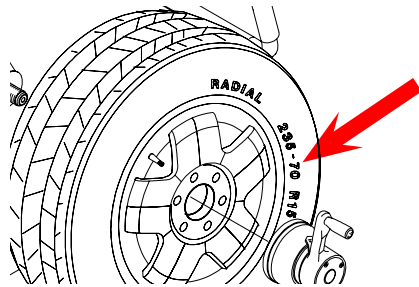

Figure 24a
**4.5.4.1 Manual Rim Diameter Entry** - Select the Manual Diameter button. Read the rim diameter marked on the sidewall of the tire (Figure 24a and 24b). Press the Diameter Button (D) and enter the measured rim diameter by selecting the +/- keys until the desired value appears in the display.